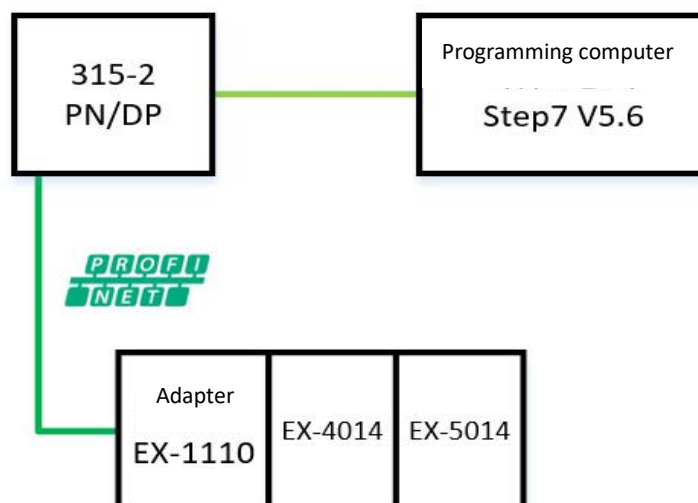

Figure 5-2-18 Communication connection diagram
1. Communication connection diagram, as shown in Figure 5-2-18.